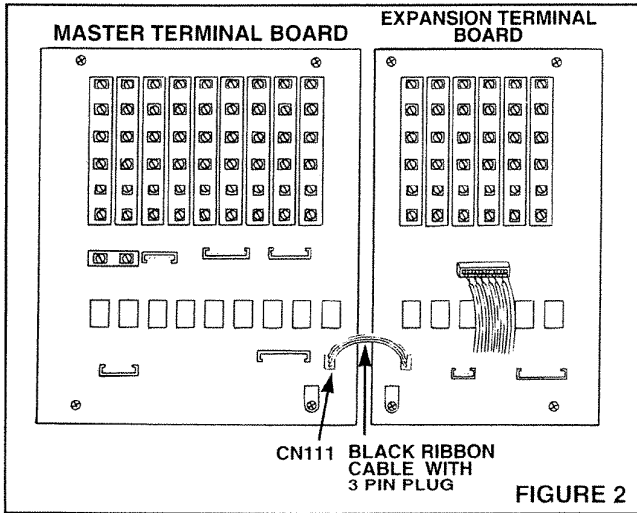

FIGURE 2
1. Refer to Figure 2. Insert the black ribbon cable with three (3) pin plug into the master station terminal board connector CN111.